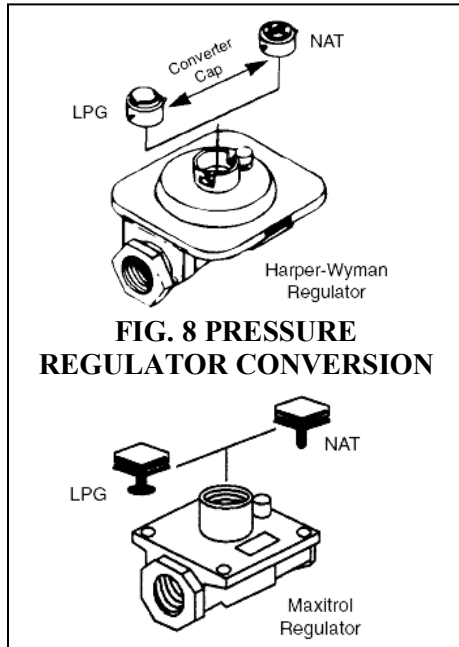

FIG. 8 PRESSURE REGULATOR CONVERSION
All ranges are equipped with a gas pressure regulator for controlling gas pressure in the range. The pressure regulator must not be removed. To convert from one gas to another, perform the following: (1) Remove the convertor cap on top of the regulator. (2) Invert the convertor cap, or invert the selector pin on the cap. (3) Re-install the cap. See FIG. 8.